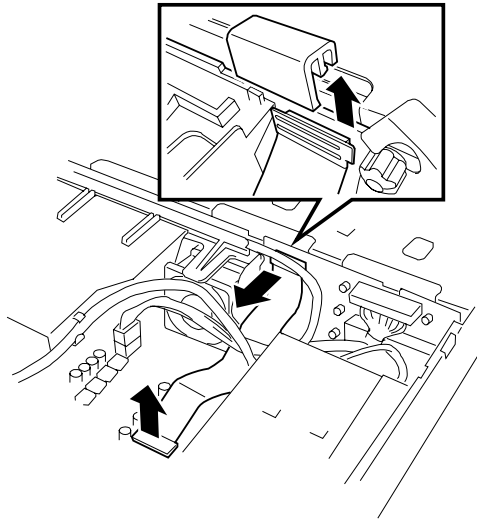

Figure 4-37. Removing the FPC Cable
8. Remove the FPC cable fastener and disconnect the FPC cable connecting the system board and SCSI backplane. See Figure 4-37.